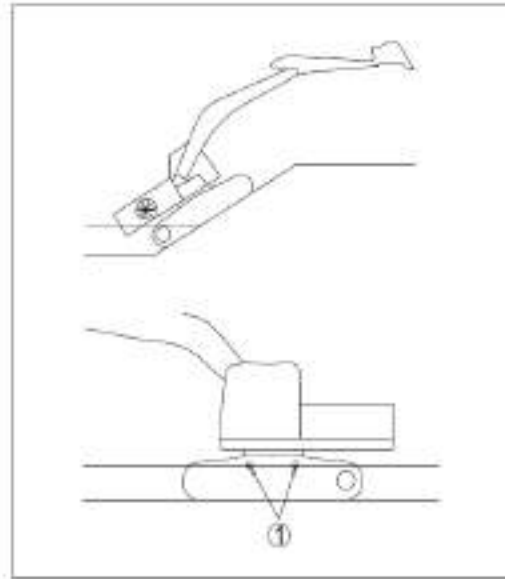

Figure 4-44 Allowed water depth
1. If the inclination of the machine is larger than 15 °C when the machine walks out from water as shown in Figure 4-44, the rear of the superstructure will dip into the water and the cooling fan will screw the water, resulting in radiator damage.
3. Do not drive the machine in water with level higher than the centerline of the sprocket ①.